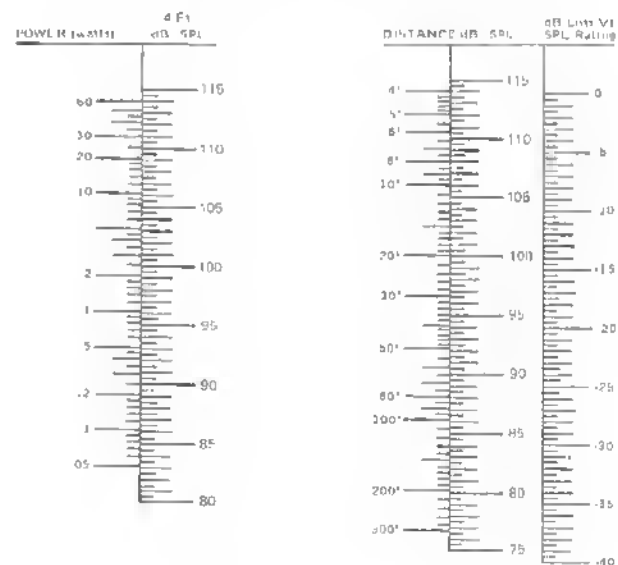

FIGURE 5 — Nomographs
**Level Variations with Distance: Non-Reverberant Environments:** In a non-reverberant environment (such as out-of-doors), sound pressure level will drop 6 dB every time the distance from the speaker is doubled (inverse square law). The nomograph of Figure 5 shows the dB losses to be expected as distance from the PRO-12 is changed.
**Level Variation with Power:** Each time the power delivered to the speaker is halved, a drop of 3 dB occurs, in any type of environment. The nomograph of Figure 5 shows this effect.